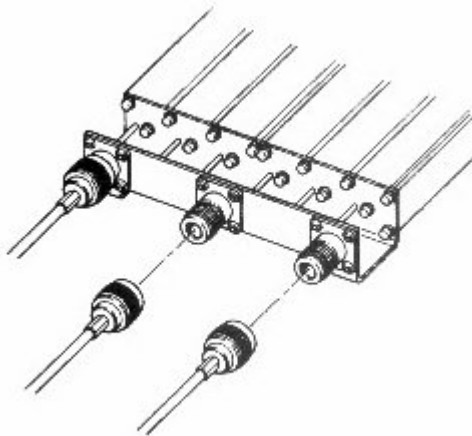

Figure 2-3. Duplexer, Rear View
9. Connect the lower frequency radio to the LOW port on the rear of the duplexer. (Figure 2-3).
10. Connect the higher frequency radio to the HIGH port on the rear of the duplexer. (Figure 2-3).